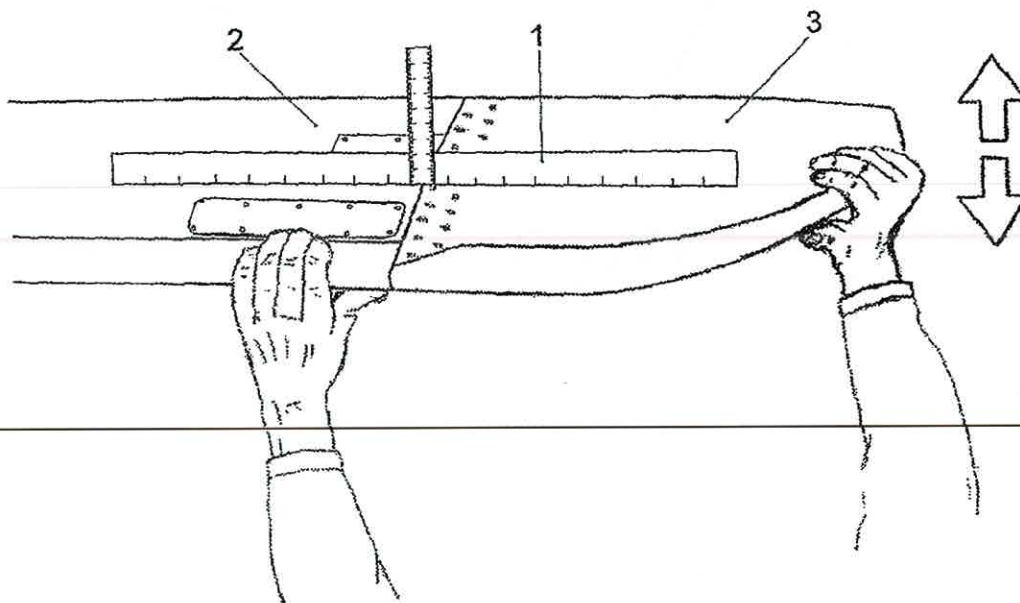

Figure 6
- Hold the leading edge of the blade (2) and apply an upward bending load to the blade tip cap (3), as shown on Figure 6.